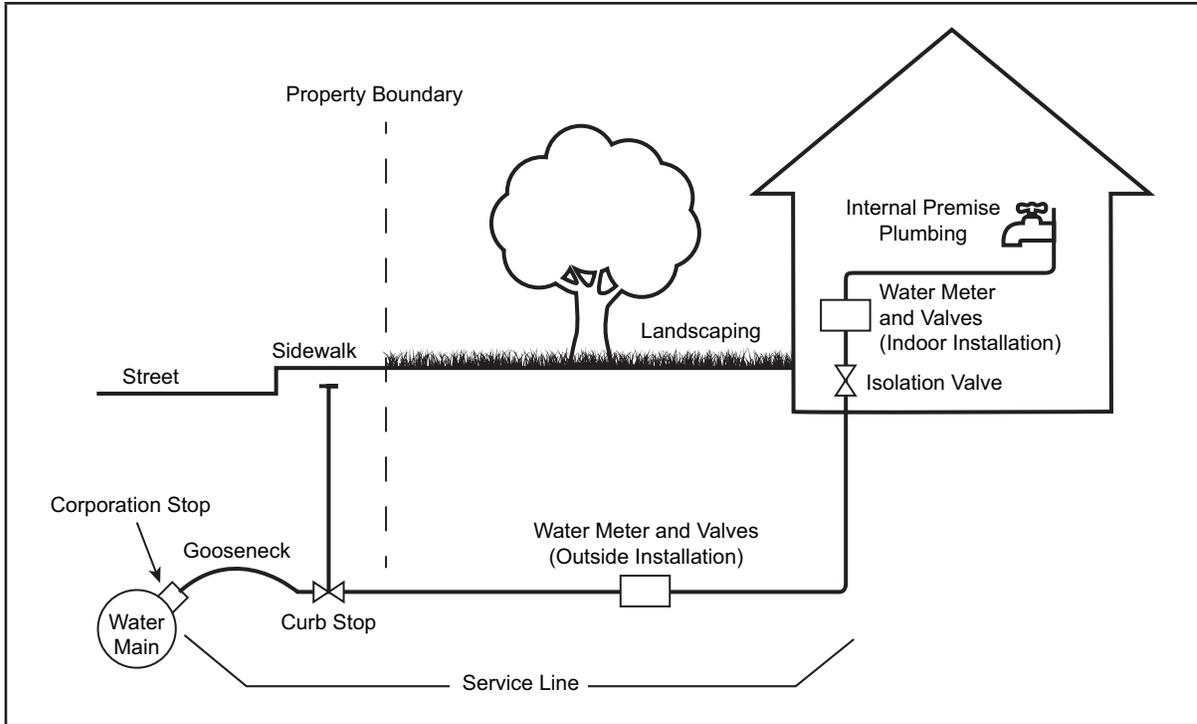

Figure 1 Typical water service line components
2. *Corporation stop*: A valve attached to the water main to which a service line is connected. It is used to interrupt flow during installation or maintenance of the service line (see Figure 1).
3. *Curb stop*: A valve installed in the service line, generally at the property line, and accessible for operation from the surface of the ground for routinely interrupting flow through the service line (see Figure 1).
5. *Gooseneck*: A sweeping bend in a service line where it connects to the water main, resembling the shape of a goose's neck, that will allow soil movement without damaging the service line (see Figure 1).
9. *Service line:* The pipe that runs between the utility’s water main and the specific premises’ plumbing, including both the portion owned by the utility, if any, and the private service line owned by the property owner (see Figure 1).
11. *Water main:* The water pipe from which the domestic water supply is delivered by the utility to the service pipe leading to specific premises (see Figure 1).
12. *Water meter:* An instrument used for recording the quantity of water passing through the service line to specific premises. Water meters are typically installed with valves on inlet and outlet sides of the meter (see Figure 1).